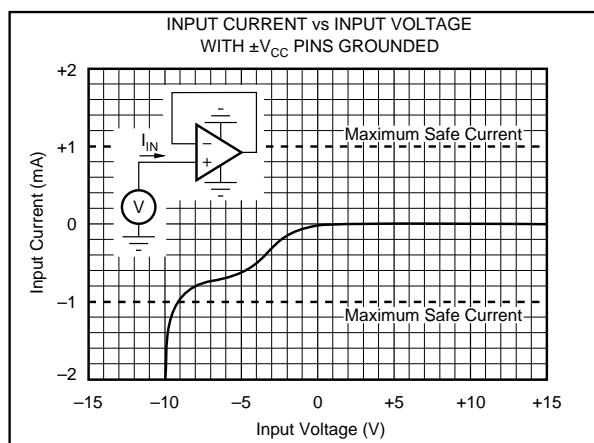

FIGURE 2. Input Current vs Input Voltage with $\pm V_{CC}$ Pins Grounded.
NOTES: (1) Packages must be derated based on $\theta_{JC} = 30$ °C/W or $\theta_{JA} = 120$ °C/W. (2) For supply voltages less than ±18VDC the absolute maximum input voltage is equal to: 18V > V_{IN} > - V_{CC} - 8V. See Figure 2. (3) Short circuit may be to power supply common only. Rating applies to +25°C ambient. Observe dissipation limit and T_J .
Unlike BIFET amplifiers, the **Difet** OPA404 requires input current limiting resistors only if its input voltage is greater than 8 volts more negative than $-V_{CC}$. A 10kΩ series resistor will limit the input current to a safe value with up to $\pm 15V$ input levels even if both supply voltages are lost. (See Figure 2 and Absolute Maximum Ratings).